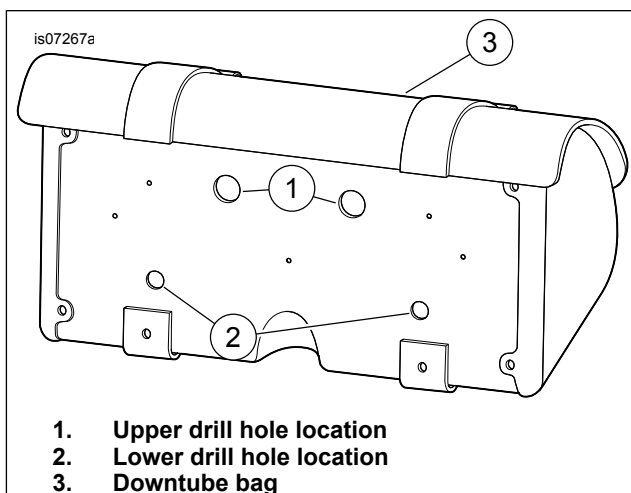

Figure 1. Drill Hole Location for XL Models
1. See Figure 1. Starting with a 5 mm (3/16 in) drill bit, drill four pilot holes (1 and 2) through the back of the downtube bag (3) at the locations specified. Drill indicators are located on the back of the plastic base. Take care not to damage the front face of the bag with the drill bit.